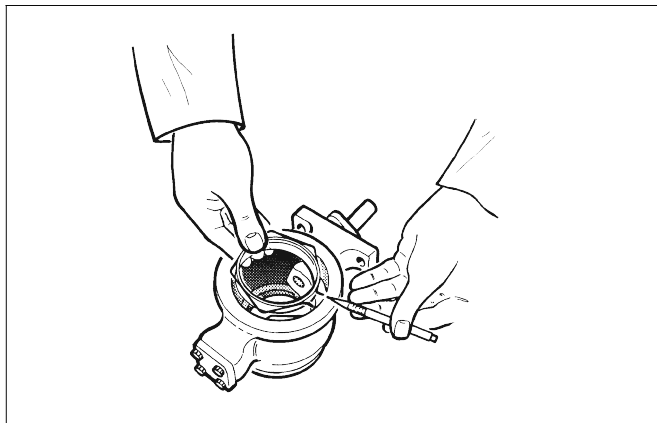

Fig. 17 Mounting the seat
- ❑ Turn the valve and lift the seat from the body through the downstream flow port, Fig. 17.
- ❑ Place the lock spring (5) on the seat.
- ❑ When the valve is opened, the ends of the spring must be by the V-shaped opening, see Fig. 17.